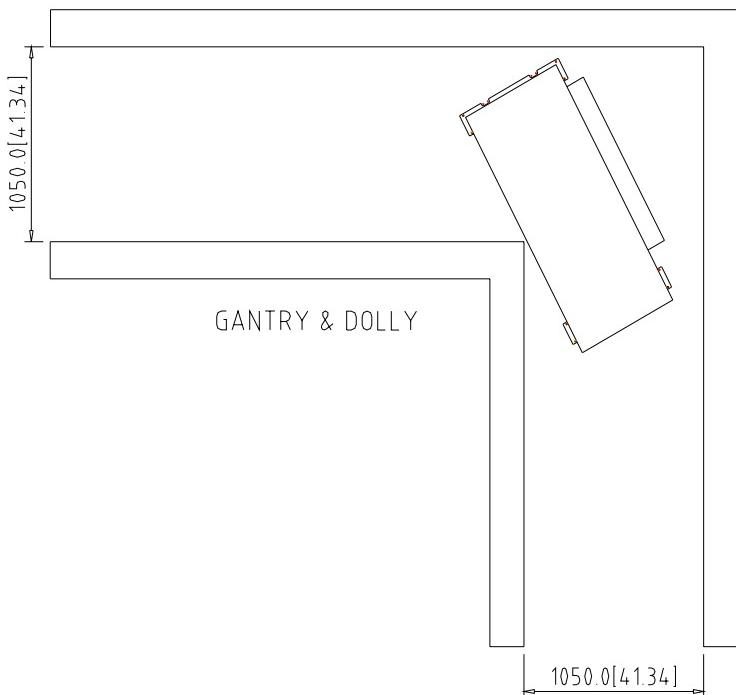

Figure 8.18 Passage clearance for gantry
**Note.** If the corridor has a 90° corner, the corridor width must be at least 42" (105 cm). See Figure 8.18. The gantry on its dolly with the jack beams mounted can go through 91 cm (36") doorways. Without the jack beams, the gantry can pass a doorway of 75 cm (30").